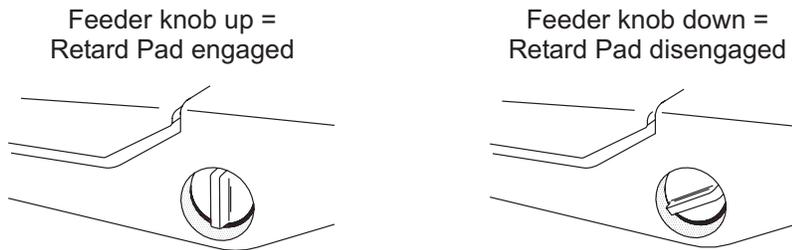

FIGURE 31: Feeder knob position
- 6 Turn the feeder knob to the upright position (see Figure 31).